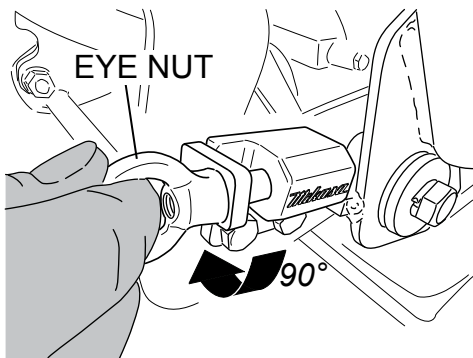

Figure 8. Turning Eye Nut
2. Pull and turn the eye nut, 90° to the right. See Figure 8.